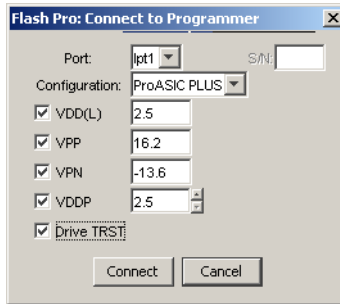

Figure 3-1. FlashPro: Connect to Programmer Dialog Box
1. From the **File** menu, click **Connect**. The FlashPro Connect to Programmer dialog box displays, as shown in Figure 3-1.